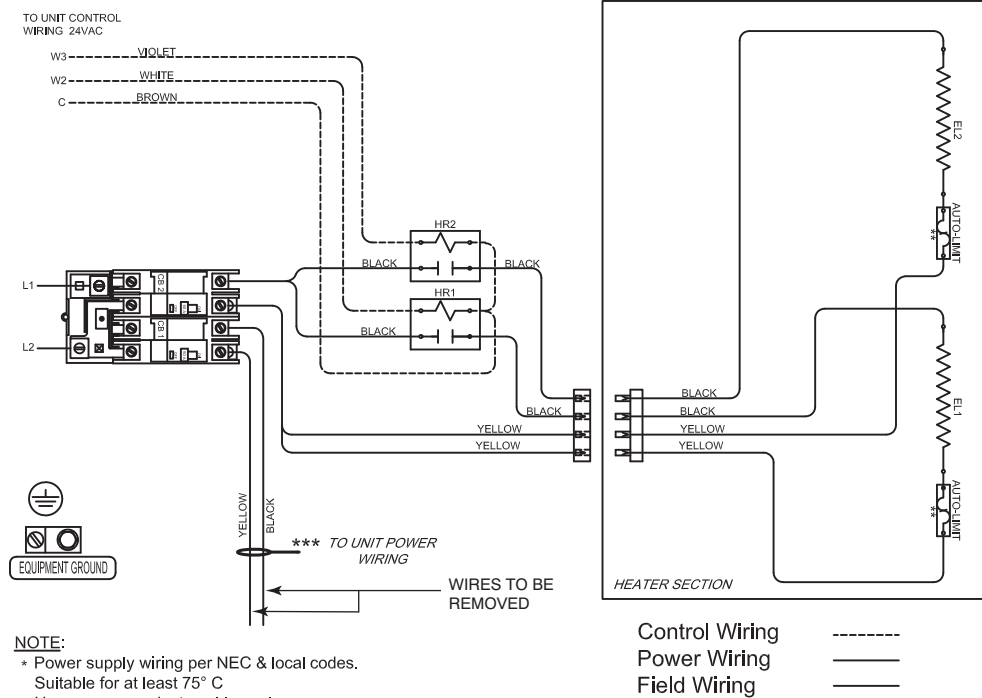
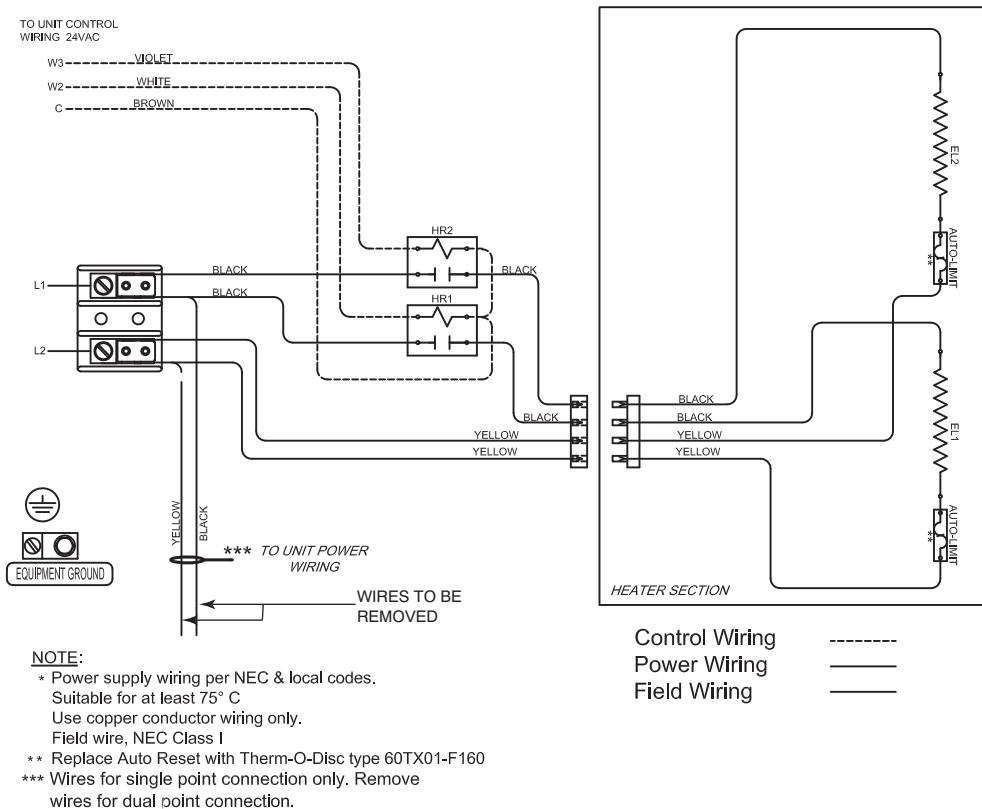

Fig. 3 - Wiring Diagram Example for Fused Heater
Fig. 4 - Wiring Diagram Example for Non-Fused Heater
5. Remove unit power wiring line connection from heater to unit contactor and compressor leads as shown in heater wiring diagram. these are the stripped end wires black and yellow, with opened ends (See Fig. 3 and Fig. 4).